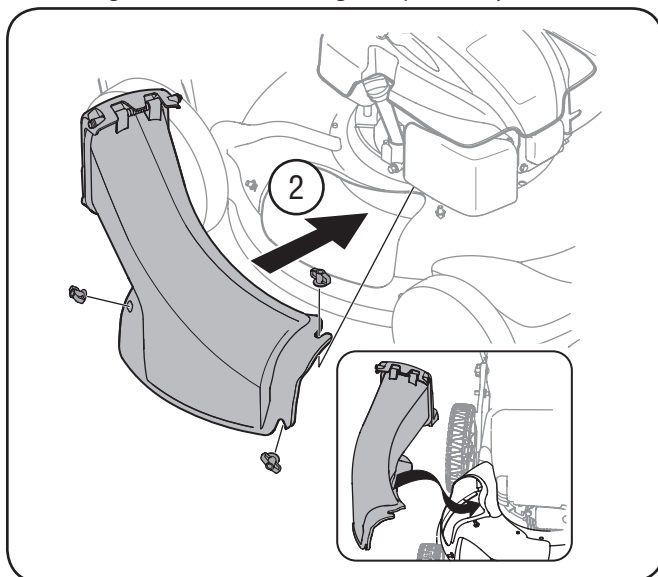

Figure 3-4
2. Replace with grass bag adapter, while making sure the front lip of adapter goes under the edge of the deck. Refer to Fig. 3-4. Secure with wing nuts previously removed.